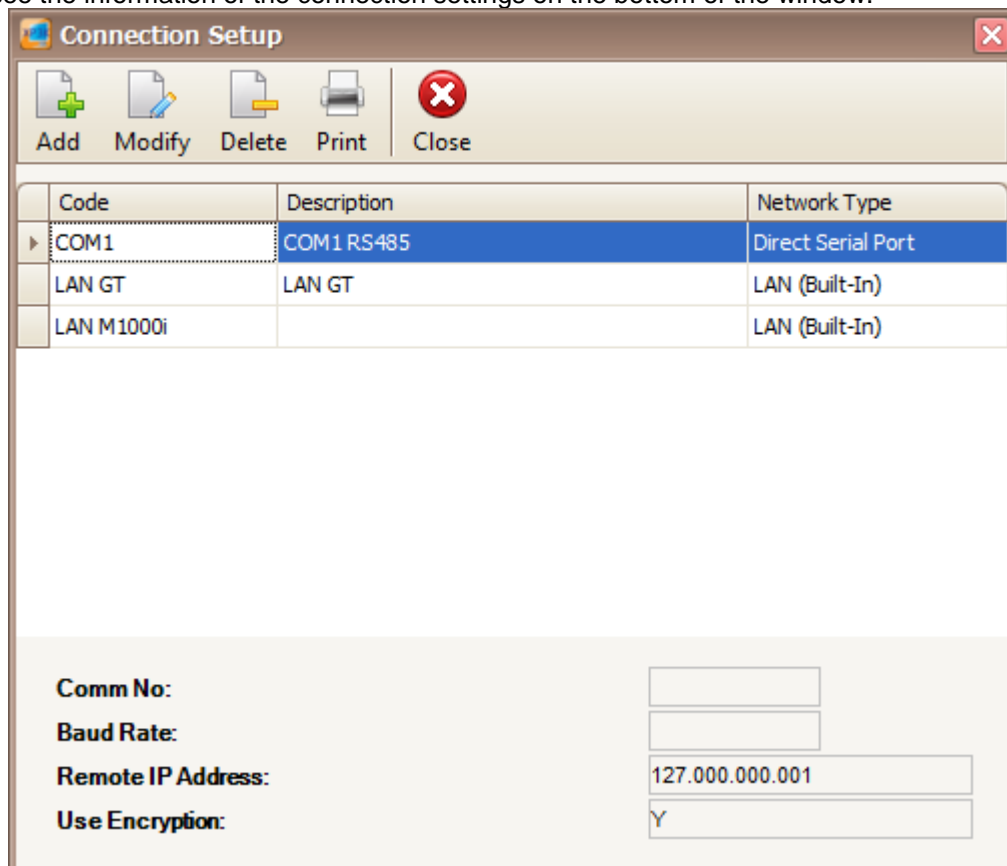

Figure 108 - Connection Setup
2. The following window will be shown (Refer **Figure 108**). On the Connection Setup window, you can see the information of the connection settings on the bottom of the window.